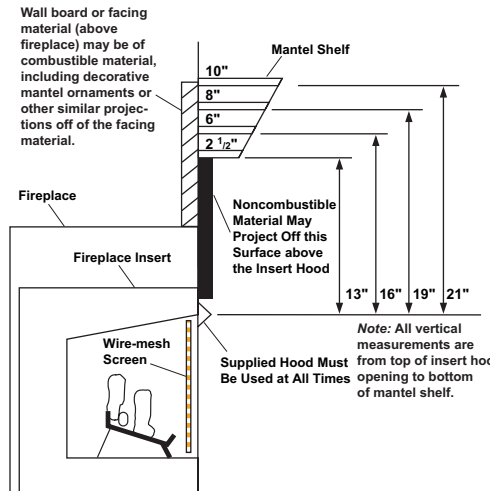

Figure 12 - Minimum Mantel Clearances for Fireplace Insert Installation
A. Clearances from the side of the fireplace cabinet to any combustible material and wall should follow diagram in Figure 12, page 12.
If there is a mantel above masonry fireplace, you must meet minimum clearance between mantel shelf and top of fireplace opening (see Figure 12, page 12).
Installation of this fireplace insert involves installing fireplace insert into an existing masonry fireplace. If using a mantel above the fireplace, you must follow the clearances shown in Figure 12, page 12. Follow the instructions below to install the fireplace insert in this manner.